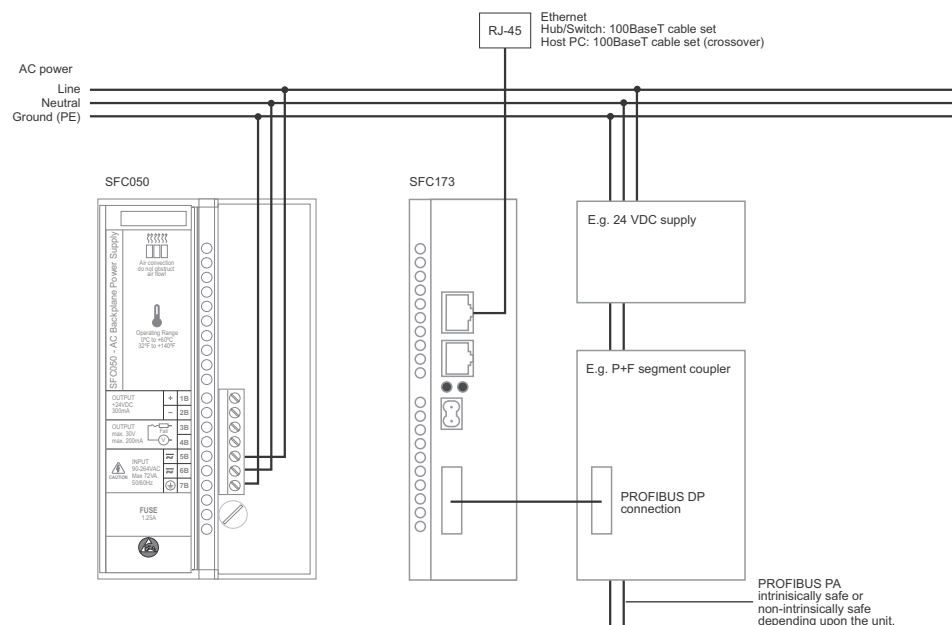

Fig. 4-5: AC wiring diagram for PROFIBUS Field Controller using segment coupler or link
- If you are using the SFC050 AC power supply, see Fig. 4.5 for connections